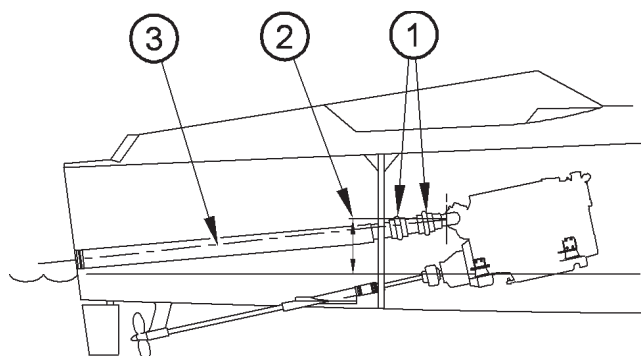

Figure 3
Due consideration must be given to providing flexibility in the exhaust hose, particularly if the engine is flexibly mounted. Where the exhaust hose must pass through a bulkhead immediately behind the engine it is preferable that the arrangement shown in figure 3 is adopted, using rubber bellows (1) to provide flexibility.
**Note:** that the bellows should be in an unstrained condition when fitted, a minimum fall of 5° (3) is required, and that the point of water injection must be at least 8 inches above the waterline (2).